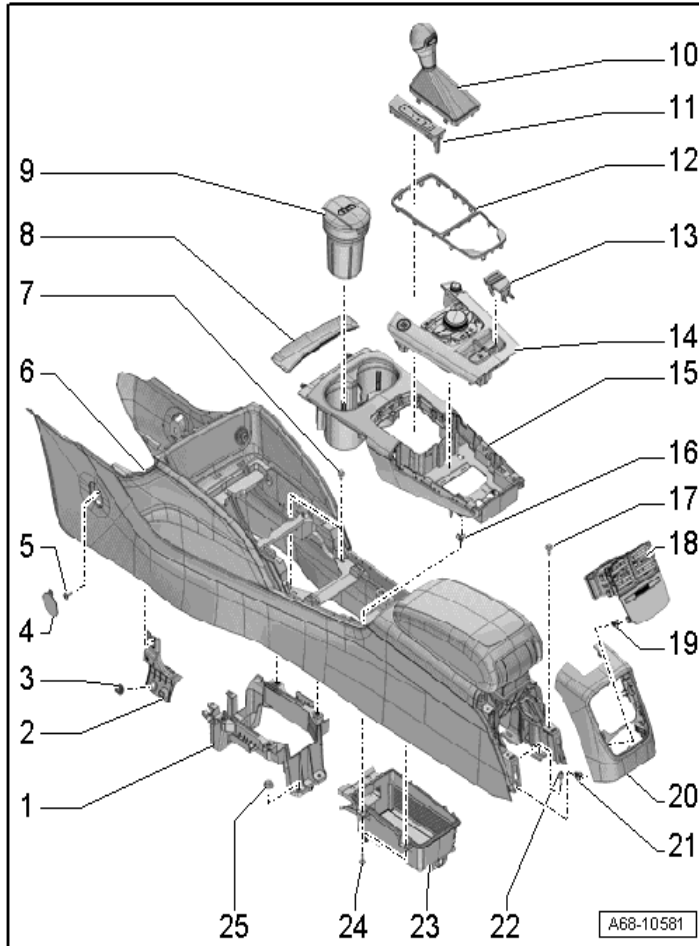

Figure 2. Center console overview.
1. Set the parking brake. Remove the shift knob with the boot (Position 10), selector lever transmission range position display unit Y26 (Position 11), and center console insert (Position 15) per the repair manual instruction (Figure 2).